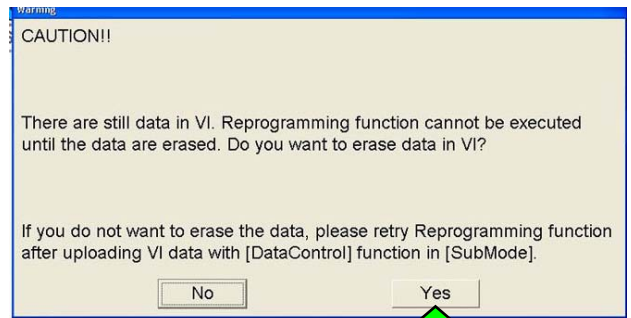

Figure 18a
**NOTE:** If the message shown in Figure 18a appears, there is data stored in the plus VI. Select “Yes” to proceed with reprogramming.